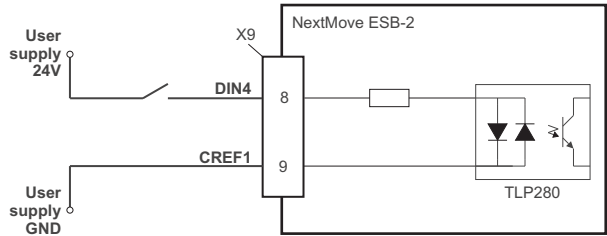

Figure 12: Digital input - typical 'active high' input connection using a switch
**Note:** The circuits shown in Figures 12 and 13 are not suitable for use with fast inputs DIN0 to DIN3. Using a mechanical switch, relay contacts or other source liable to signal 'bounce' could cause unwanted multiple triggering.